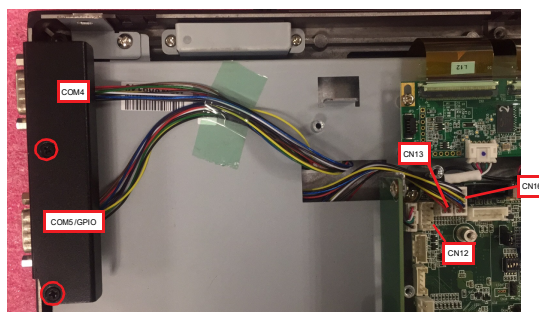

Figure 2.28
3. Install the assembled serial module in the system (the two screws circled in red in Figure 2.28 are fixed). Connect the COM4 cable to CN16 and the COM5 cable to CN13 as shown in Figure 2.28. Then replace the reinforcing plate and the rear cover. (If the COM5 cable is connected to CN12, COM5 will support GPIO.)